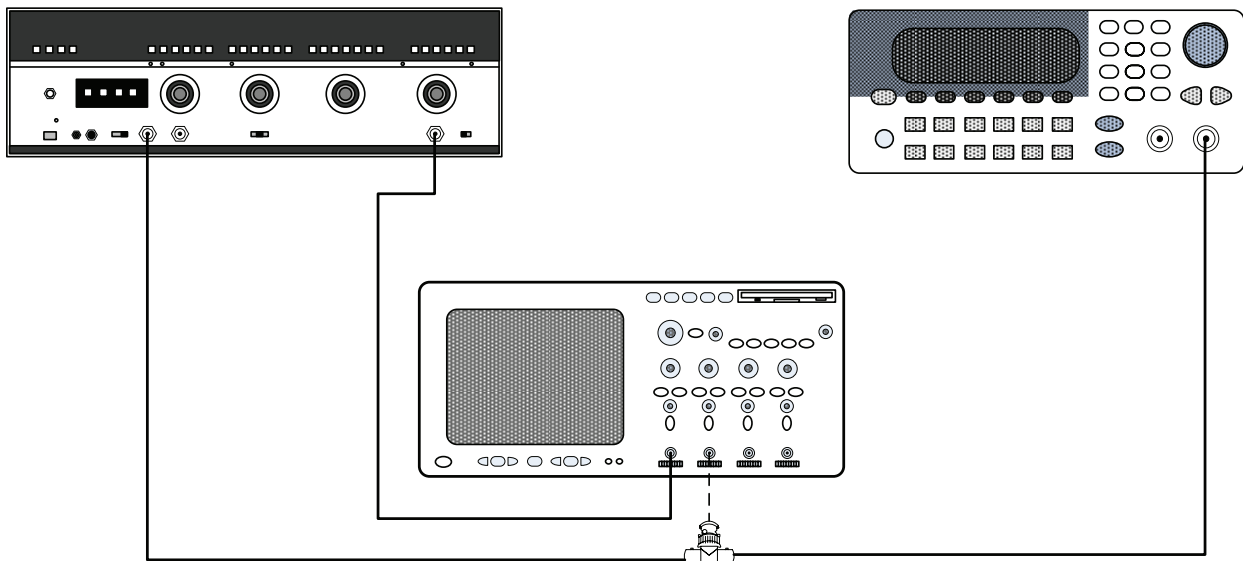

Figure 6. Variable trigger - equipment setup.
(1) Position controls as listed in (a) through (f) below:
(2) Connect equipment as shown in figure 6.